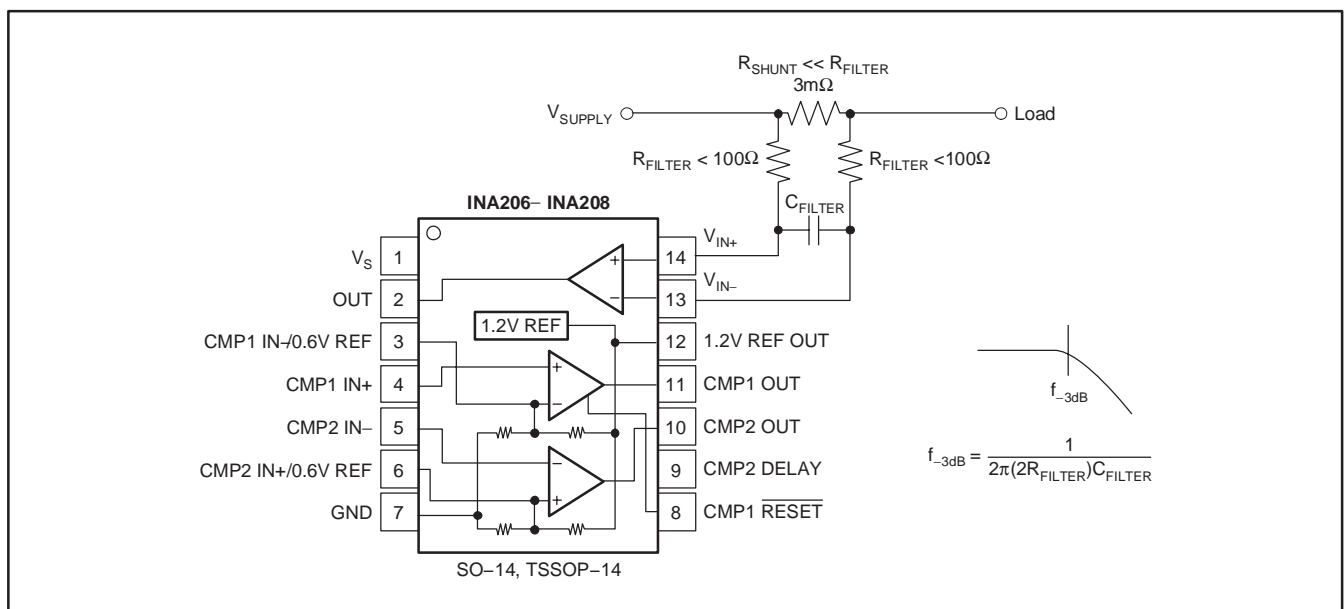

Figure 5. Input Filter (Gain Error - 1.5% to -2.2%)
An obvious and straightforward location for filtering is at the output of the INA206, INA207, and INA208 series; however, this location negates the advantage of the low output impedance of the internal buffer. The only other option for filtering is at the input pins of the INA206, INA207, and INA208, which is complicated by the internal 5kΩ + 30% input impedance; this is shown in Figure 5. Using the lowest possible resistor values minimizes both the initial shift in gain and effects of tolerance. The effect on initial gain is given by Equation (3):